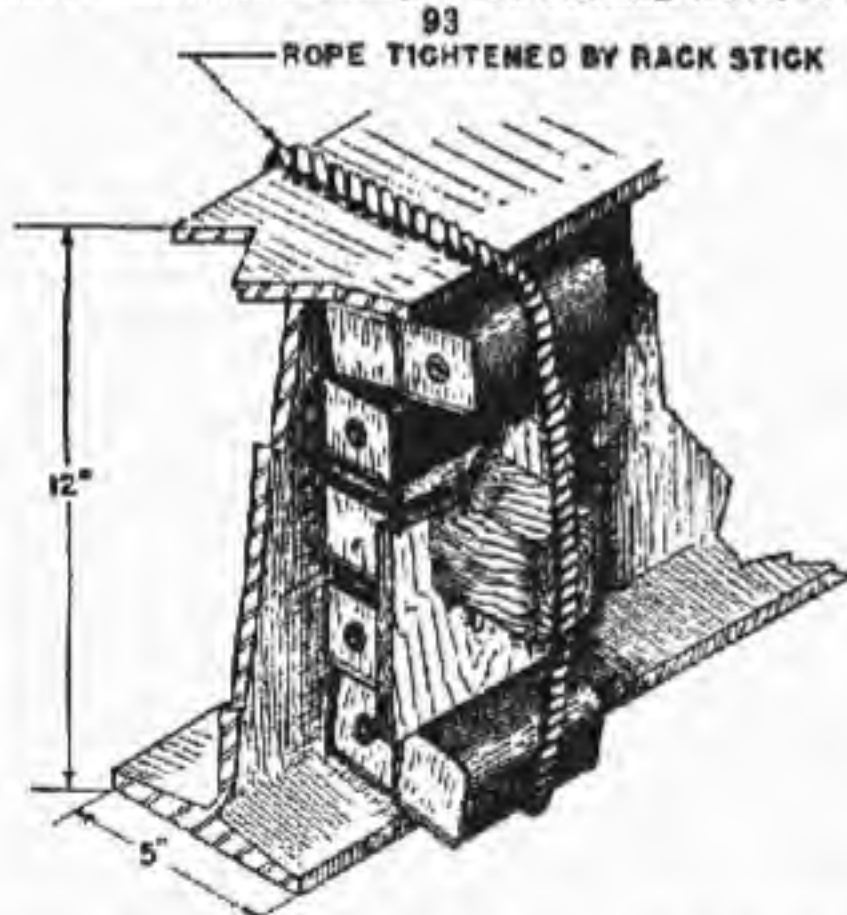

FIGURE 104.—How to blow 12-inch I-beam. Note location of TNT blocks.
c. *Steel*.—The effects of an explosion are very localized in steel. Only that portion of steel which is in close contact with the explosive charge is cut. A concentrated charge placed on a steel plate will simply blow a hole in the plate or dent it directly under the charge. Therefore, if it is desired to cut a steel plate, the explosive charge must be distributed over the entire line along which the cut is desired. Likewise in cutting steel I-beams, built-up girders, columns, etc., the charge must be distributed so that the entire cross section of the member will be cut. (See fig. 104.) Charges must never be placed directly opposite one another on opposite sides of a steel plate or members. When charges must be placed on opposite sides they should be 3 inches apart along the member.